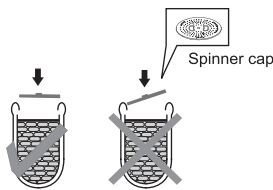

Fig. 2
-  Place the SPINNER CAP in the tub as shown in the figure 2.